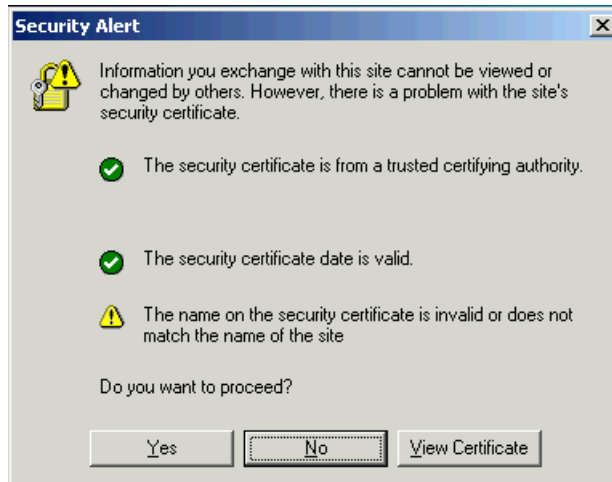

Figure 6-14 Security Alert window
As we continue with setting up the SVC cluster, you come across many instances where you are prompted with security warnings regarding unrecognized certificates. The security warning panel (Figure 6-14) shows three options.
1. From the Security Alert window (Figure 6-14), select **View Certificate**.